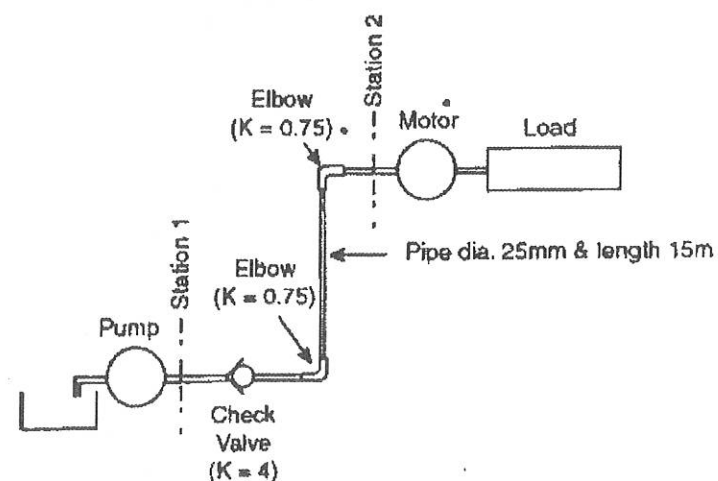

Figure 4
- (b) The system shown in Figure 4 contains a hydraulic pump delivering high pressure oil of specific gravity 0.9 and kinematic viscosity $1.25 \times 10^{-4} \text{ m}^2/\text{s}$, to a hydraulic motor. A 25 m pipe of internal diameter 30 mm and thickness of 10 mm connects the pump and motor. The pipe has two elbow fittings ($k = 0.70$) and one check valve ($k = 4.0$). The motor is placed 10 m above the pump. The pressure required to drive the loaded motor is 40 bar. Determine the pump discharge pressure, if the discharge from the pump is 180 lpm.